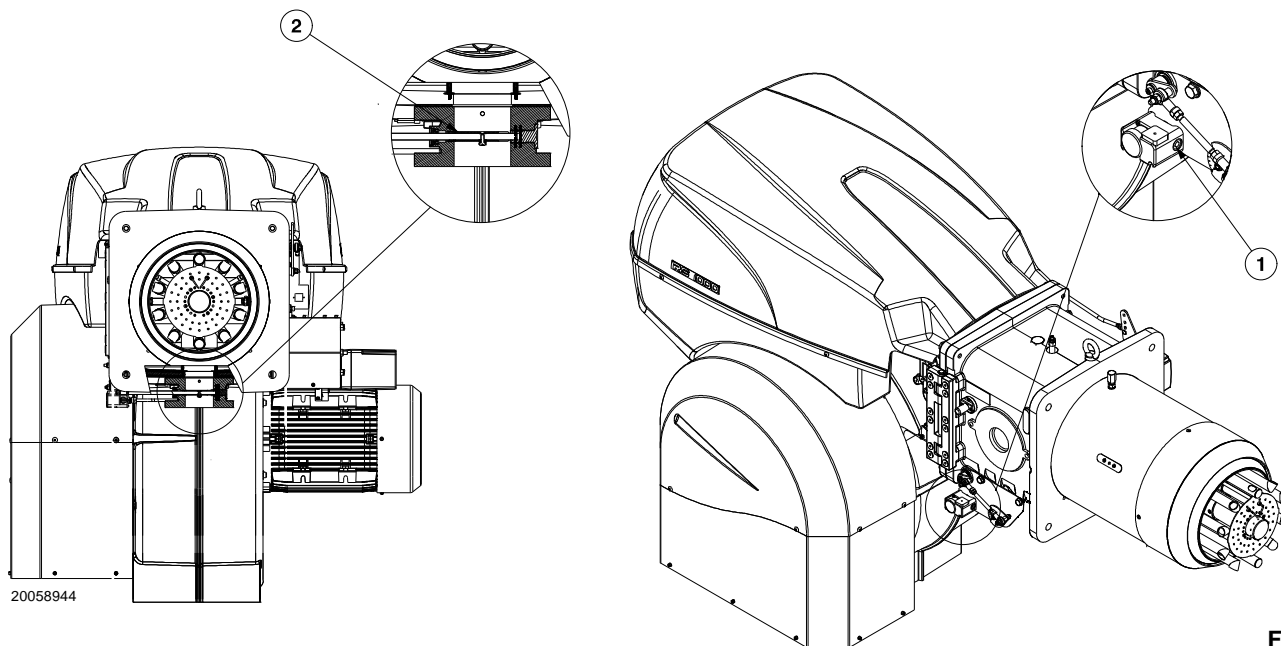

Fig. 22
Gas pressure measured at the test point 1) (Fig. 22), with:
Pressure loss at gas butterfly valve 2) (Fig. 22) with maximum opening: 90°.
- Subtract the combustion chamber pressure from the gas pressure measured at test point 1) (Fig. 22).
Gas pressure at test point 1) (Fig. 22) = 41.9 mbar
To calculate the required gas pressure at test point 1) (Fig. 22), set the maximum modulating output required from the burner operation:
- Read, on the right (column 1), the pressure at the test point 1) (Fig. 22).
Pressure required at test point 1)(Fig. 22).